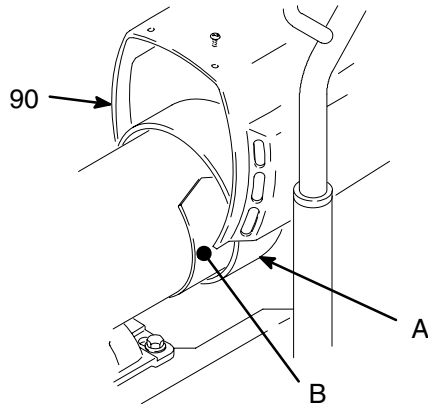

Fig. 2
5. Fig. 2. Remove motor shield (90) and inspection covers (B).
4. Fig. 2. Remove motor shield (90). Remove inspection covers (B) and gaskets on each side of motor.
16. Fig. 2. Install gaskets and inspection covers (B) on each side of motor. Install motor shield (90).